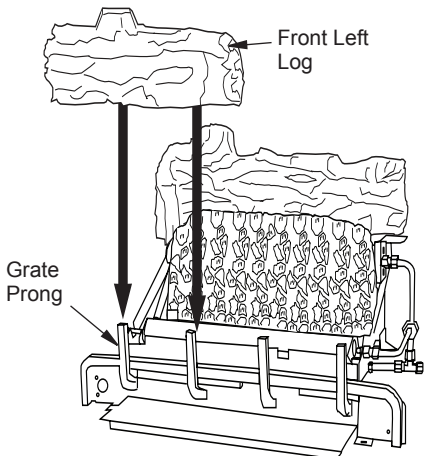

Figure 29 - Installing Front Left Log
3. Position front left log against left side of grate prongs (see Figure 29).